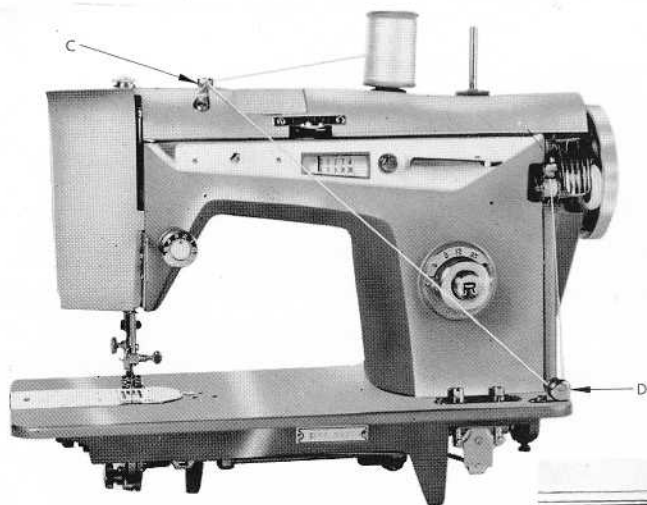

Fig. 8
2. Place thread on the spool pin and guide the thread through the upper thread guide (C) Fig. 8. Then bring the thread across the machine and under the bobbin winder thread guide (D) Fig. 8.